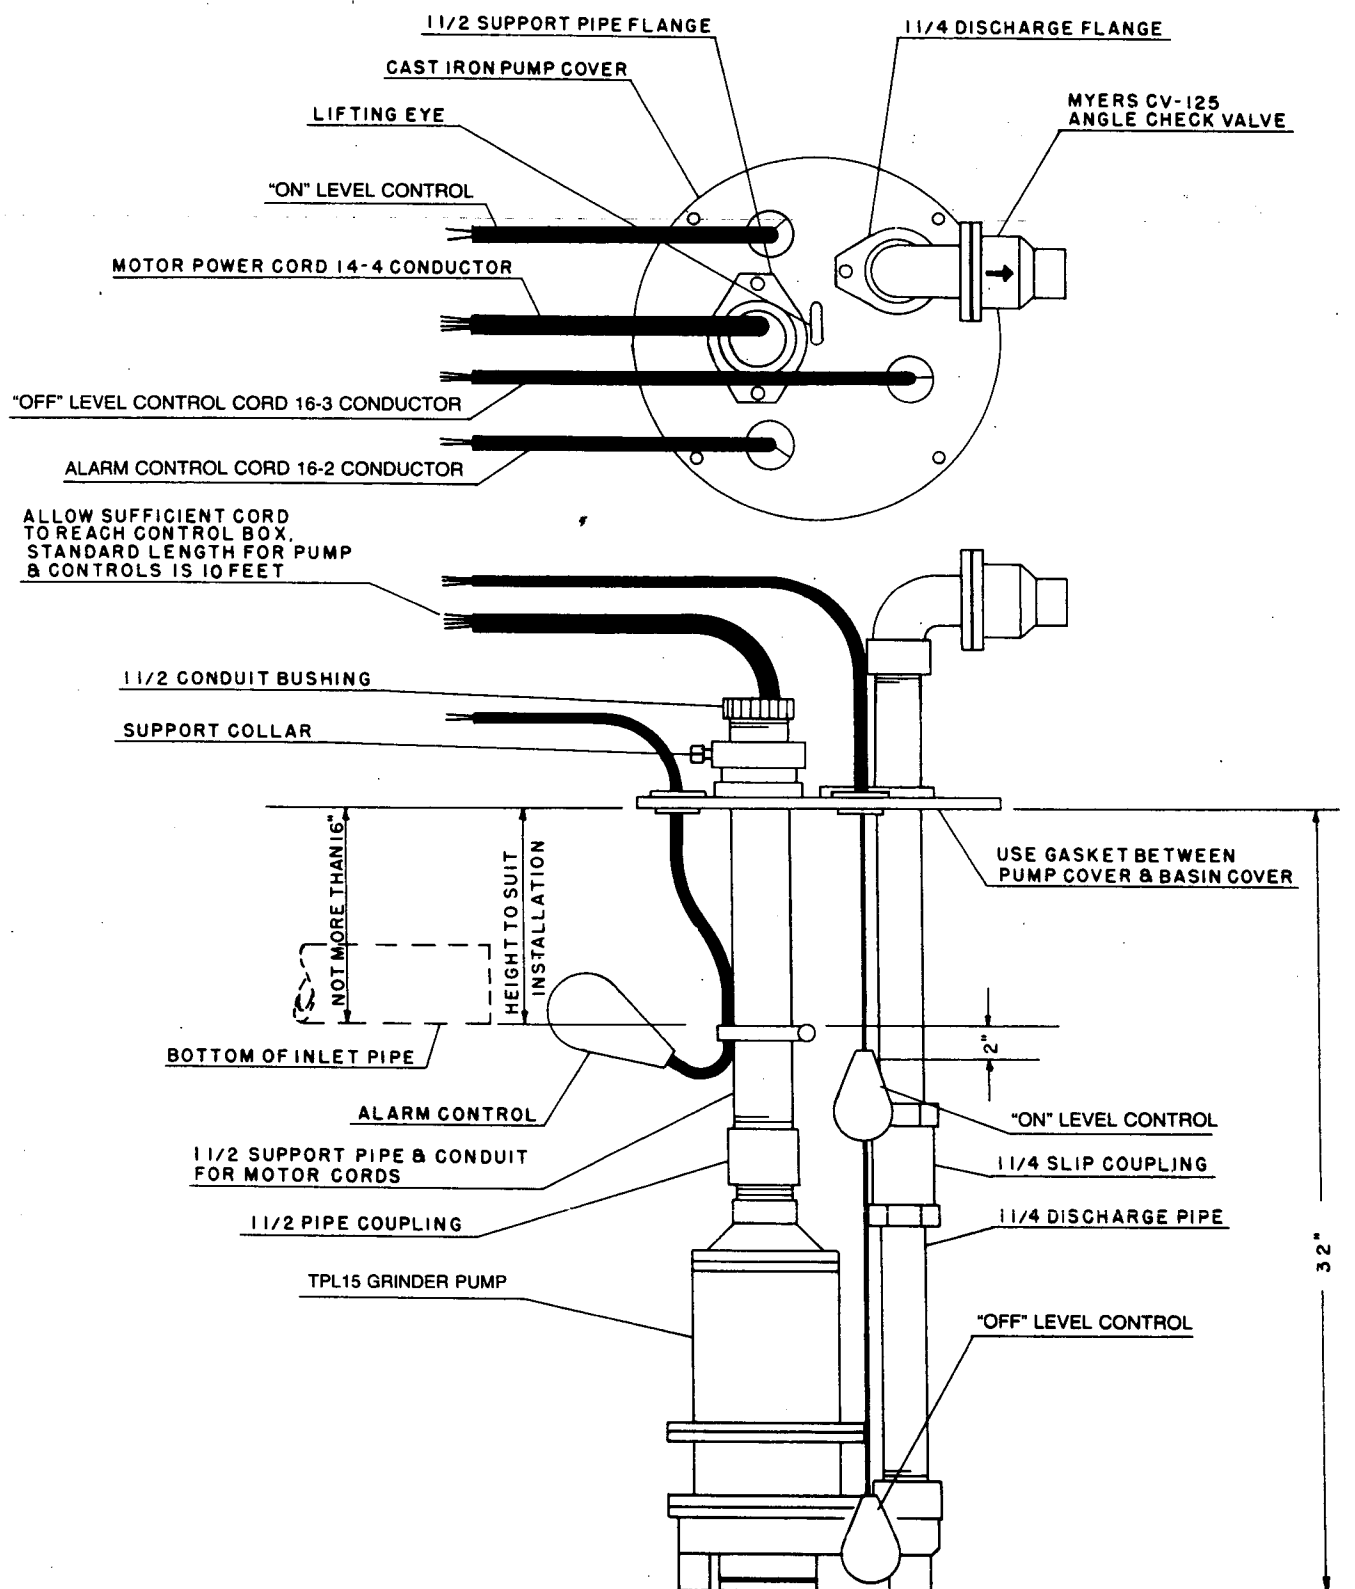

FIG. 3
2. Use template furnished with inlet flange and cut hole in basin and drill for mounting bolts. Mount inlet flange at height required, but not lower than shown on Figure 3.
4. Place pump cover over pipes and tighten flange to hold in place at height shown on Figure 3.